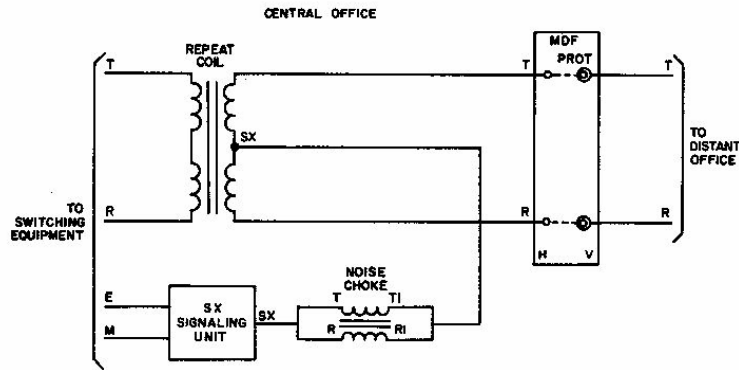
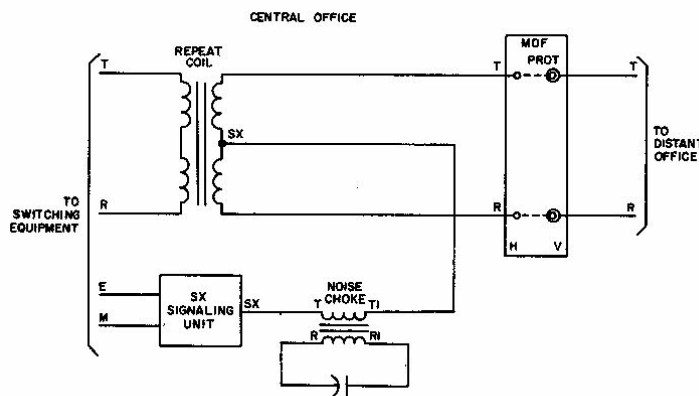

Figure 13: SX Application
Figure 14: Application of Capacitor to SX Unit
- 4.07 SX (Simplex) Signaling: To reduce noise on a telephone circuit equipped with a simplex signaling unit, the Noise Choke is inserted in the signaling lead between the repeat coil and the SX unit as shown in Figure 13. The choke's effectiveness may be improved by connecting a small capacitor across one winding of the choke as shown in Figure 14. The optimum capacitor size should be determined by using a capacitor decade box.